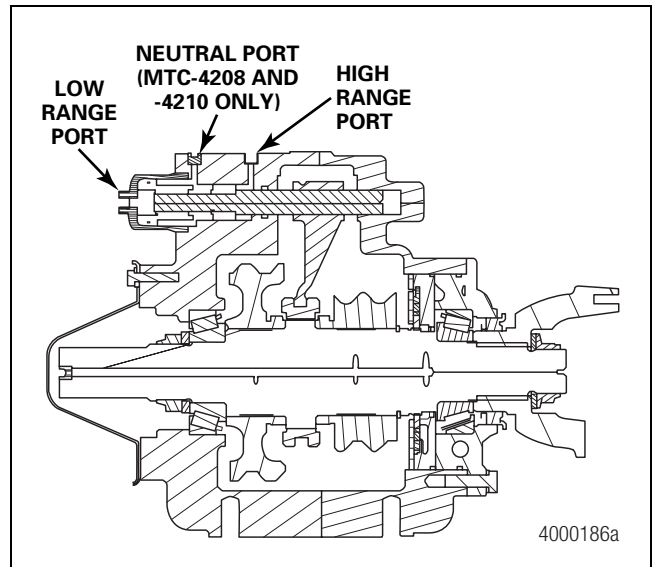

Figure 6.14
1. Grease all O-ring seals. Use a light coat of lithium-based grease, Meritor specification O-688. Refer to Figure 6.14 for shifter component arrangement.